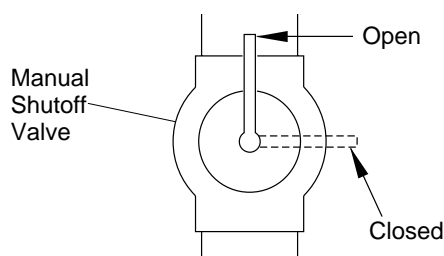

Figure 26 - Manual Shutoff Valve
1. Close manual shutoff valve (see Figure 26).
1. Open manual shutoff valve (see Figure 26).
4. Check all joints from manual shutoff valve to thermostat gas valve (see Figure 26). Apply mixture of liquid soap and water to gas joints. Bubbles forming show a leak.